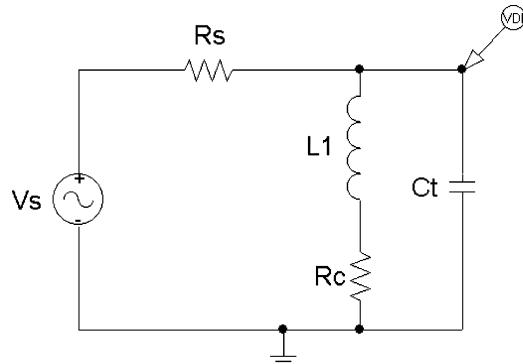

FIGURE 6.41: Parallel-tuned LCR circuit
- (1) Fig. 6.41 shows a resonant circuit fed from a voltage source in series with a large resistance R_s thus simulating a current source. Determine the -3 dB bandwidth, loaded and unloaded Q -factor, and the dynamic impedance $R_s = 110\text{ k}\Omega$, $R_c = 10\Omega$, $C_t = 5.3\text{ nF}$, $L_1 = 470\text{ uH}$,